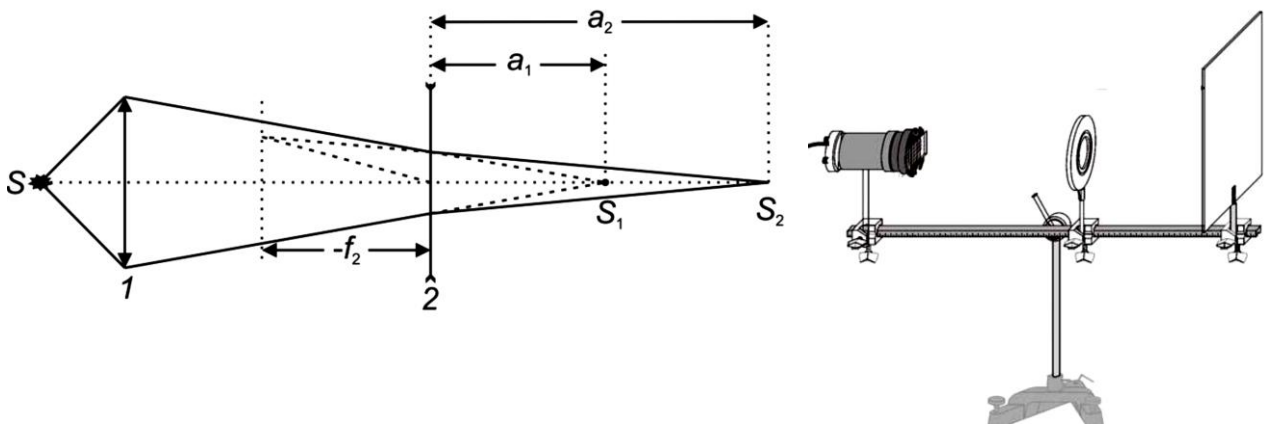

Figure 514.4. Ray diagram (left) and experimental setup (right) for determining the focal length of a diverging lens
1. Install the lamp, the converging lens with $f = 100$ mm, and the screen on the optical bench, as shown in Fig. 514.4.
6. Having found the distances a_1 and a_2 (Fig. 514.4), calculate the focal length f of the diverging lens using the Eq. (514.3). Analyse the results.